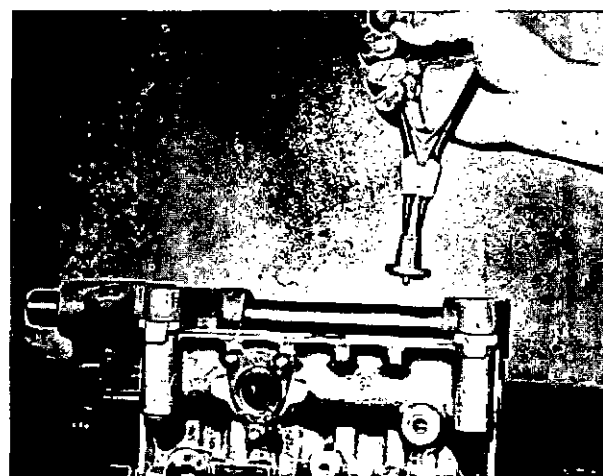

Fig. 12 Removing control sleeves and upper spring plates.
12. Set the control rack to mid-position and remove the control sleeves and upper spring plates (fig. 12).